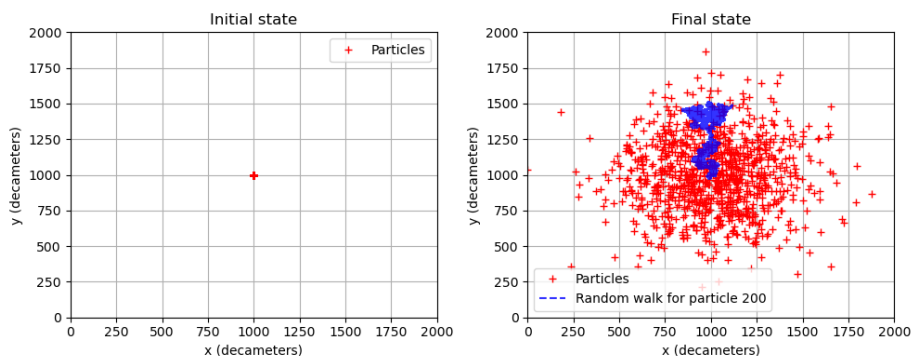

Figure 2: 2D random walk
- Initialize 1000 particles positioned on a square grid centered at (1000, 1000) (Figure 2).
- Ensure that if a particle's movement takes it beyond the predefined boundary of the space ($0 \leq x \leq 2000$, $0 \leq y \leq 2000$; Figure 2), the simulation stops.
(See Figure 2). Each grid unit represents **10 meters**.